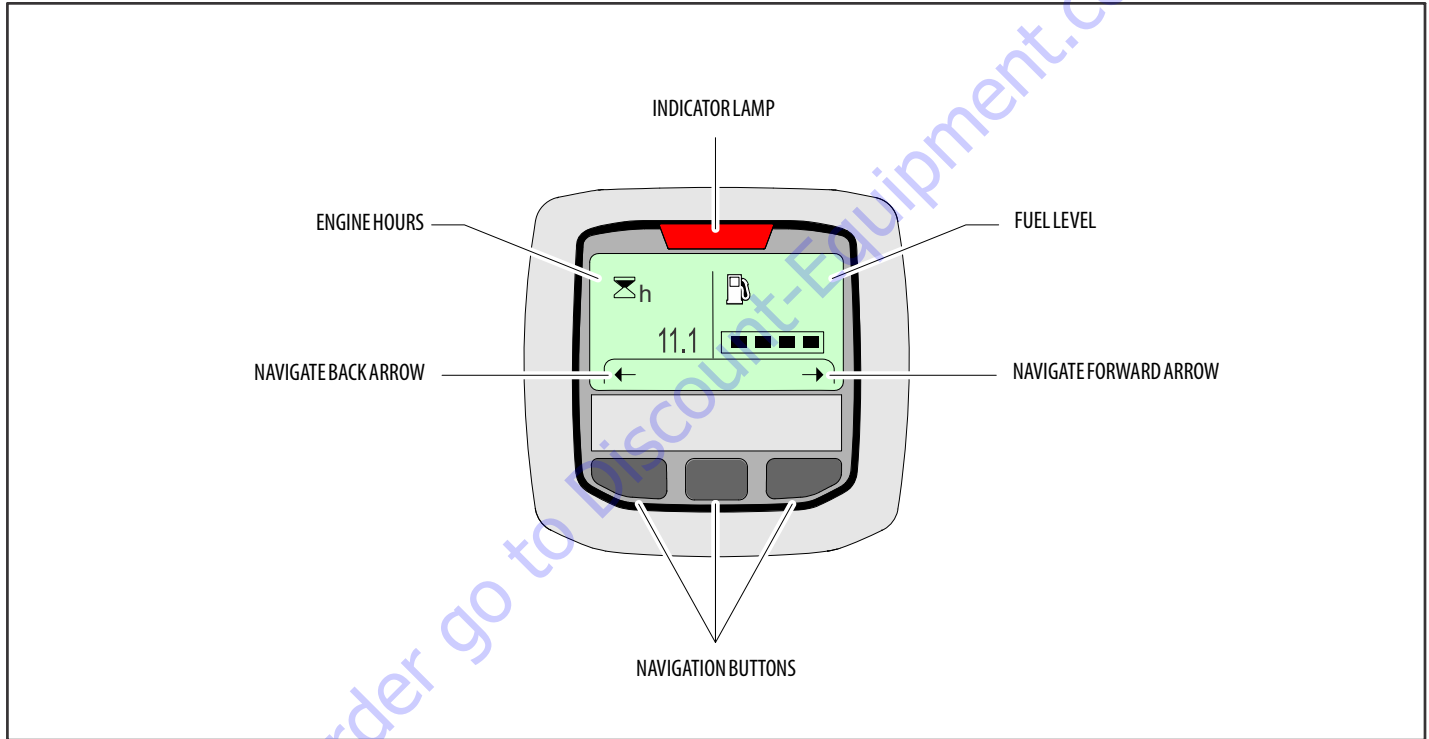

Figure 3-10. Ground Control Console Display Gauge
*(See Figure 3-10., Ground Control Console Display Gauge)*